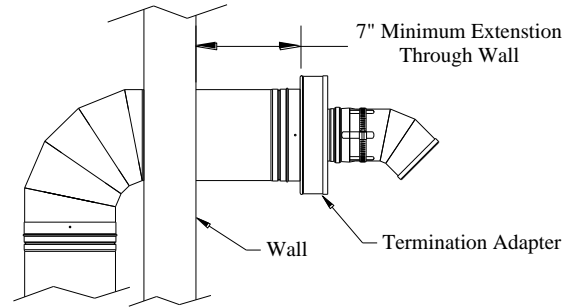

Fig 7. (Minimum Extension Through Wall)
11. Install Vertical Termination Adapter (VT). The VT can be recognized by the presence of an extra housing around the outlet end of the adapter which provides a passage way for intake air. This intake air passage way must remain free from obstruction at all times.
- a. Connect the inlet end of the VT to the vent extending through the roof or wall. Join parts using the standard DT-M joint connection method. Note: For Horizontal installation, the VT must be at least 7" from the wall (See Fig 7), and 12" from the Roof in vertical installations.